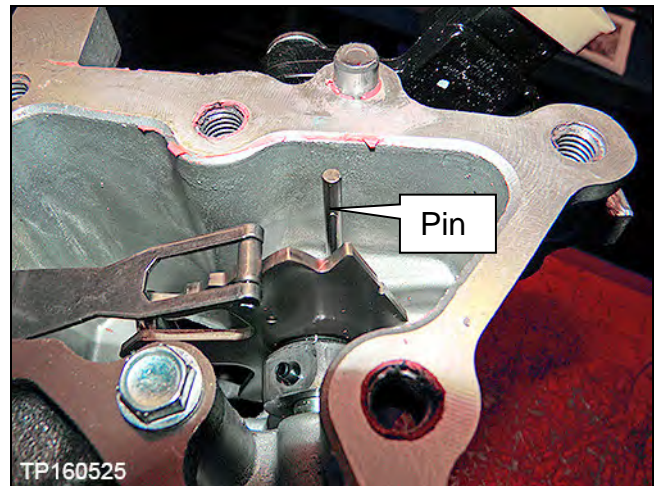

Figure 14I
13. Confirm the pin (Figure 14I) is located in the CVT case prior to installation of the converter housing.